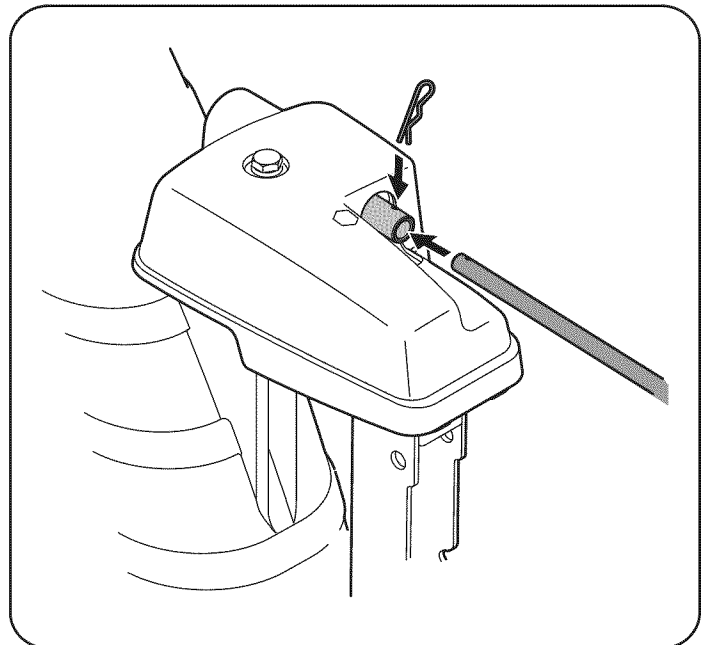

Figure 7
9. Insert chute directional control into rear of the chute control head. Secure the chute directional control to the chute control head with the hairpin clip removed earlier. See Figure 7.